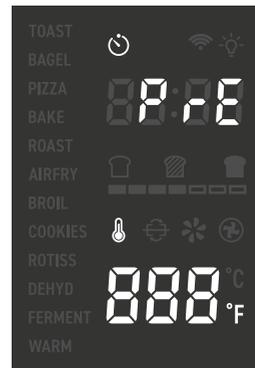

Figure 2.1
1. When you start the cooking function by pressing **START/CANCEL**, preheating will start automatically. The START/CANCEL button will light up, and the display will show "PPE". [Figure 2.1]